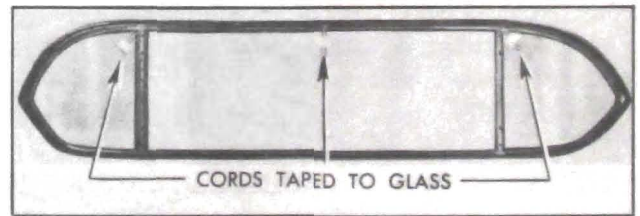

Figure 13-33—Channel and Cords Installed on Glasses
6. Insert strong cords into the pinchweld and division bar grooves of rubber channel *around each individual section of glass.* Tape ends of cords to inside surface of glasses. See figure 13-33.